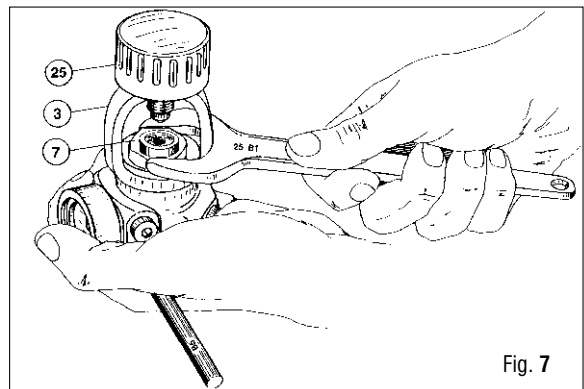

Fig. 7
12. Unscrew hose (26) using wrench (B17) and remove the O-ring (19).
13. Unscrew yoke retainer nut (7) using the special wrench (B1) and remove yoke with knob (25) (Fig.7).